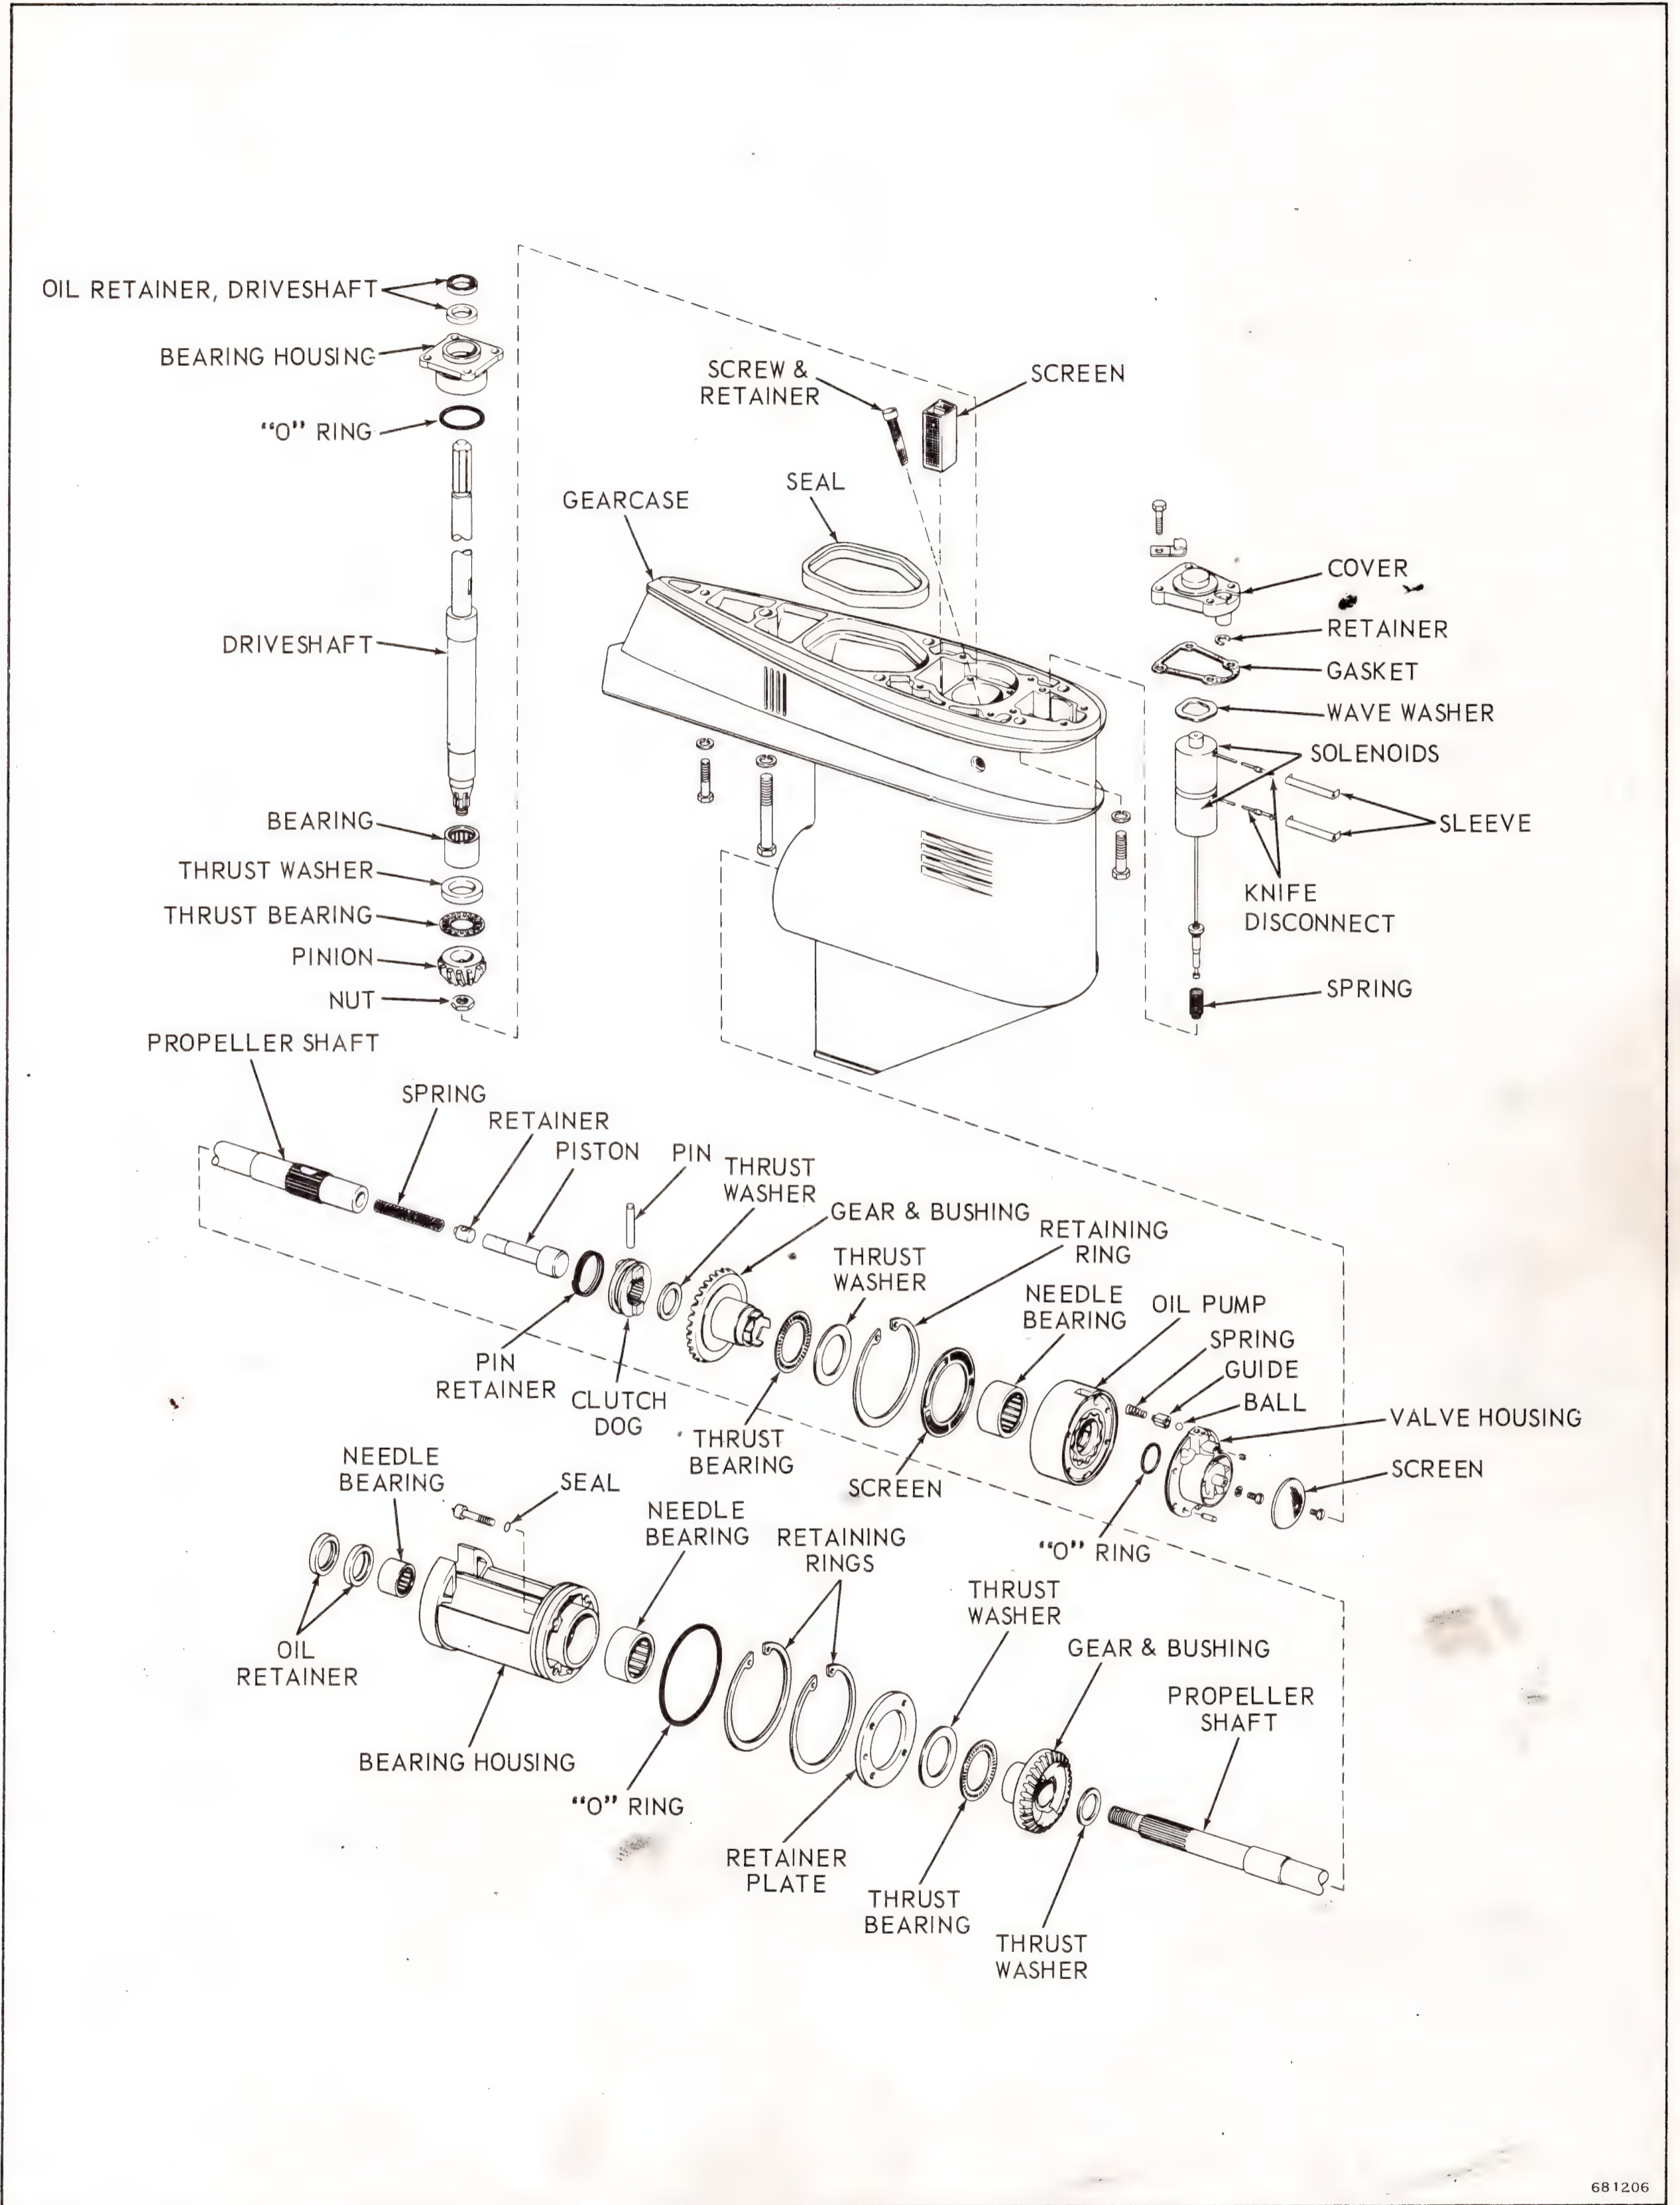

Figure 6-17. Gearcase Assembly
k. Remove Truarc ring retaining pump housing with Truarc pliers. Remove screen. See Figure 6-17.
b. Install check valve in smaller end of spring and install in oil pump housing. See Figure 6-17.
i. Install thrust washer, bearing and forward gear as an assembly. See Figure 6-17.
- o. Install thrust bearing and thrust washer on reverse gear. See Figure 6-17.
- p. Install propeller shaft bearing housing with bottom marking down (see Figure 6-17) and secure with four Allen screws dipped in Perfect Seal #4. Tighten to torque specified in Section 2.